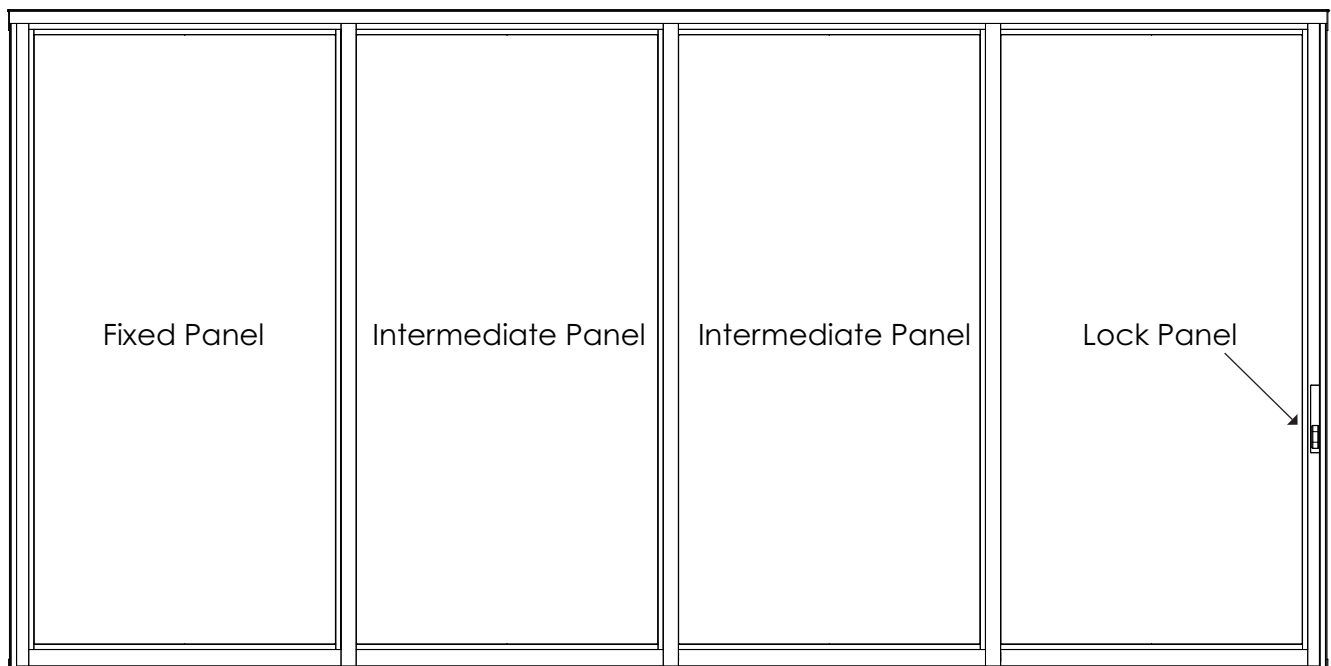

FIG 42
- All Panels must be installed into the frame from the exterior. **[FIG 42]**